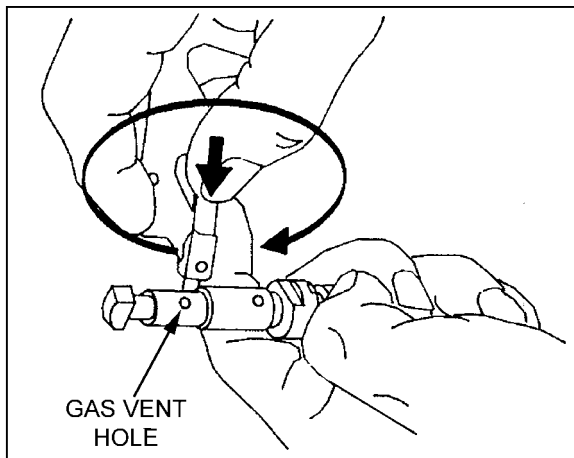

Figure 1-19. Cleaning of the gas vent hole.
- (1) Clear and disassemble the weapon.
- (2) Clean the bore and chamber using CLP and fresh swabs.
- (3) Clean the gas regulator with the special tool (scraper). Remove all carbon dust.
- (a) Clean the gas-vent hole (Figure 1-19).